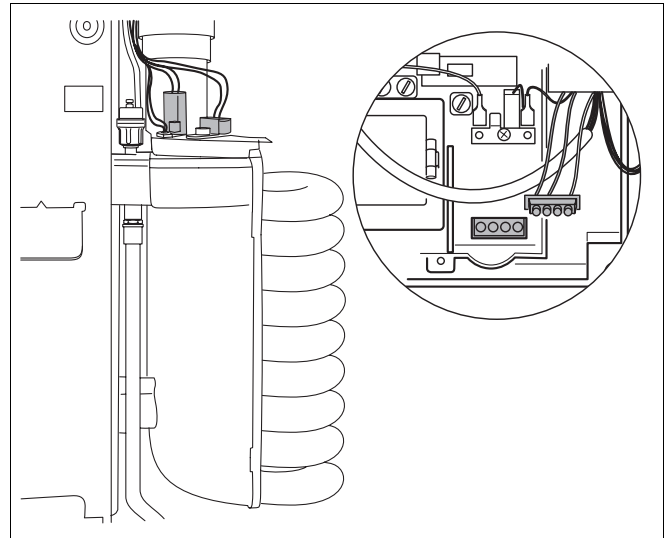

Fig. 73 Checking the hot surface ingitor
- Unplug and remove hot surface ingitor from UBA housing (fig. 73).